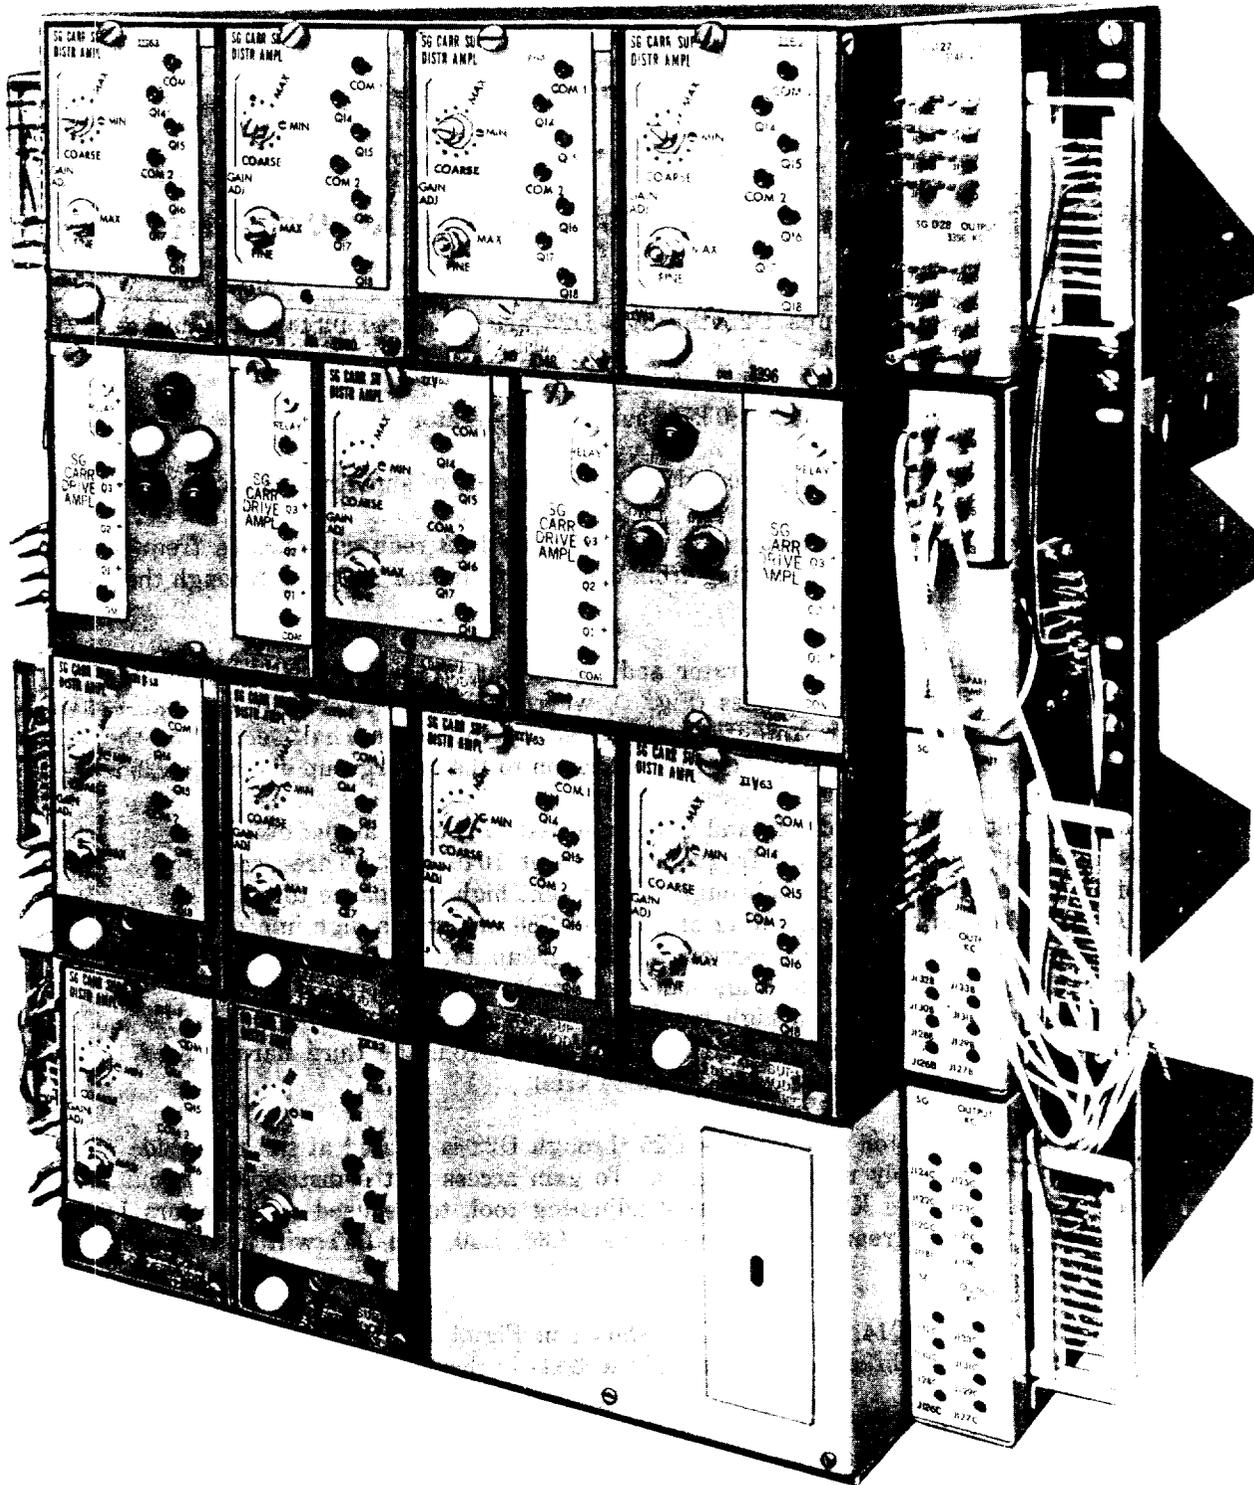

Fig. 1—J68857C Supergroup Carrier Supply Unit—Front View
The output of the 124-kHz harmonic generator and the output of the D supergroup modulators are connected to individual distribution modules (Fig. 1), where they are selected by one half-section of a supergroup carrier supply filter, amplified, refiltered by the second half-section of the carrier filter, and reamplified by the power amplifier for connection to the supergroup distribution buses.
The tuned distribution circuit for supergroups D25 through D28 is located at the right side of frame C of the J68857C carrier supply unit (see Fig. 1). To gain access to the distribution circuit, remove the coverplate assembly. The KS-19355, List 3 adjusting tool, to be used on inductors L37, L38, and L39, is mounted on the rear of the coverplate. L36, L40, and L41 will be adjusted with a small nonmetallic screwdriver.
**Note 1:** Pin jacks COM 1, Q14, Q15, and Q16 (shown in Fig. 1 and 2) have been omitted in later models of the distribution amplifier and do not apply to tests in this section.